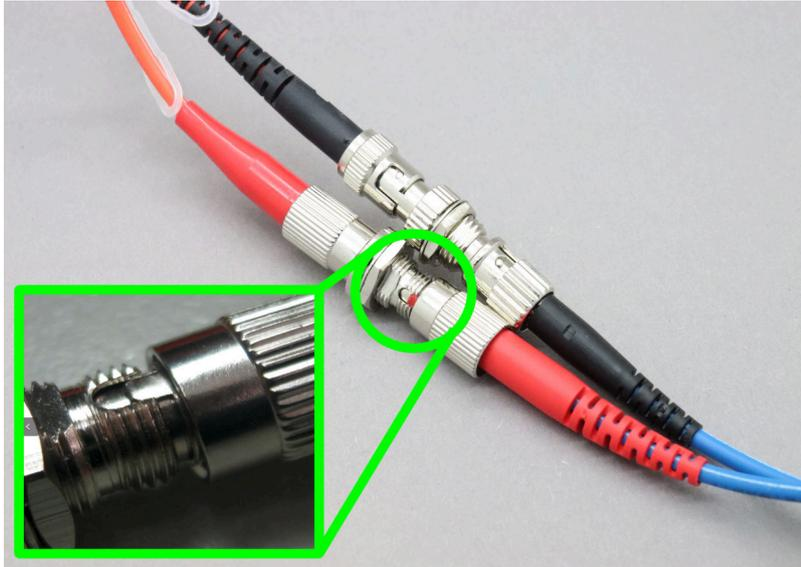

Figure 70: FC fiber connector alignment
5. Plug in the FC laser supply connector (red bend protection) and tighten its nut. Make sure that the connectors key slides into the corresponding notch, see Figure 70 for the correct alignment.